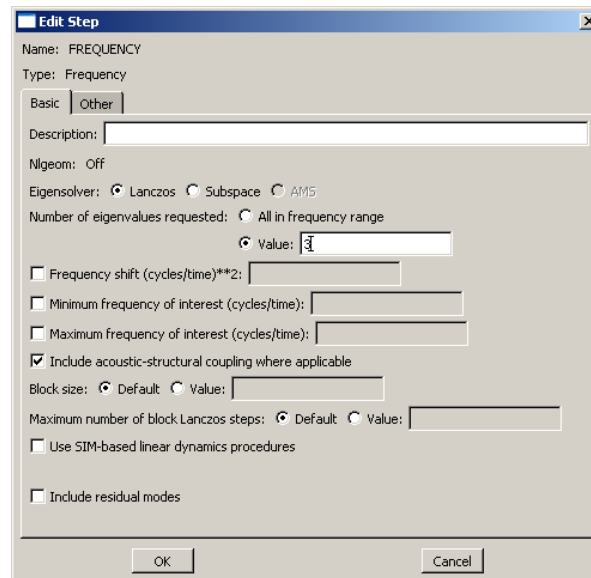

Figure 21. Edit Step Dialog Box
- Click **Continue...**, and the Edit Step dialog box will immediately appear. Under the **Number of eigenvalues requested:** option click **Value:** and enter **3**. The **Edit Step** dialog box should look similar to that in Figure 21.